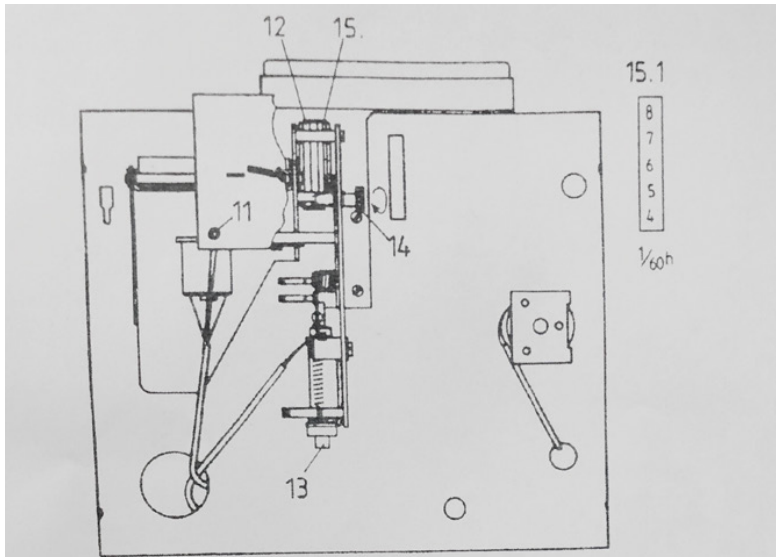

Fig. 4
5. Setting the time (dial and printing block) (fig. 4)
6. Setting the week day (fig. 4)